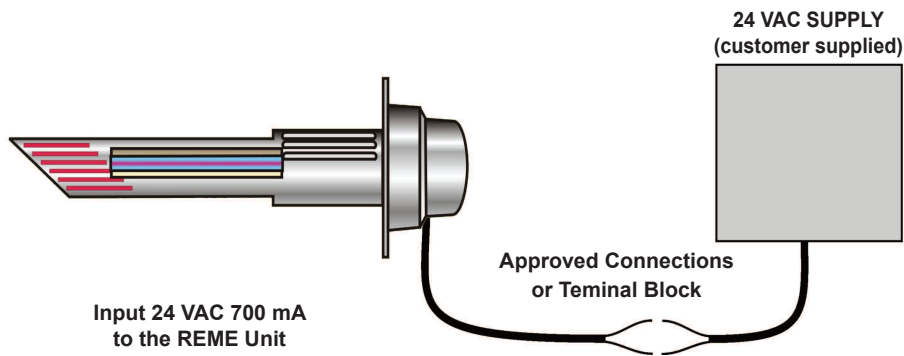

Figure 7
- Locate the control panel of the air handler. Find the 24 VAC transformer or the 24 VAC terminal strip. Allow the 24 VAC power leads to reach the 24 VAC low voltage transformer or terminal strip. Use the provided wire splices for the electrical connections (ensure any connections used conform to local codes), refer to figure 7 for the low voltage electrical schematic.